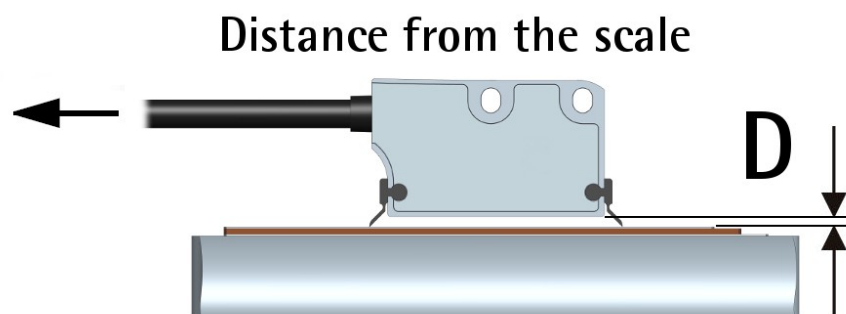

Figure 1 - Encoder / tape mounting gap
You can mount the readhead in both directions over the tape. The arrow in Figure 1 indicates the **standard counting direction** (the rising edge of A signal leads the rising edge of B signal) when the sensor moves in the direction indicated by the arrow; further information in the "4.8 Counting direction" section on page 21.
**The distance D (see Figure 1) between the bottom of the encoder and the MTI-0500 magnetic scale must be as follows:**
The positive counting direction (the rising edge of A signal leads the rising edge of B signal) is achieved when the sensor moves on the tape according to the arrow shown in Figure 1. For further information see the "4.8 Counting direction" section on page 21.
### 3.7 Optional cleaning wipers (Figure 1)